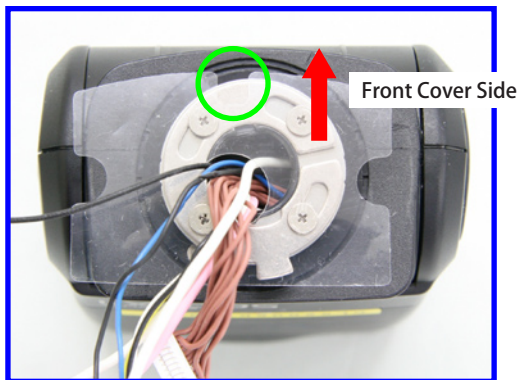

Fig. 015 Orientation of the Dust-proof Sheet
- Note the installation orientation of the Dust-proof Sheet. (Fig. 015)